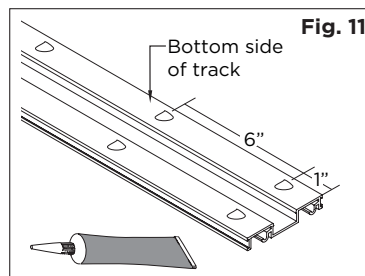

Fig. 11
6. Apply small dollops of silicone adhesive to the back surfaces 1" away from ends and every 6" on the uppermost and lowermost tracks. See Figure 11.